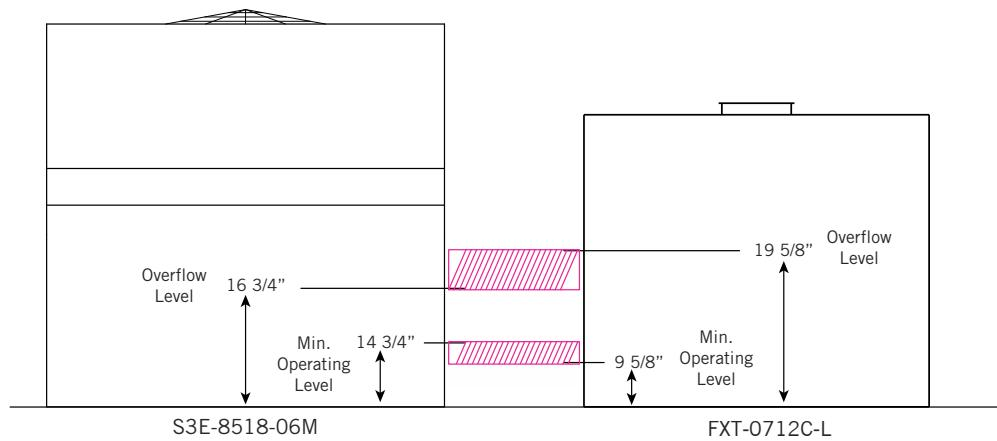

Figure 3. Sample Problem; Side View
4. To set the operating levels, raise the float ball on the make-up valve arrangement in the FXT-0712C-L by 8" to obtain a 17 5/8" operating level. This setting will maintain the 14 3/4" minimum operating level required for the model S3E-8518-06M. This is illustrated in **Figures 3 and 4**. Adjust the float balls to ensure the make-up valves operate evenly. Note, adjusting the valves may cause one valve to operate excessively while the other remains closed.